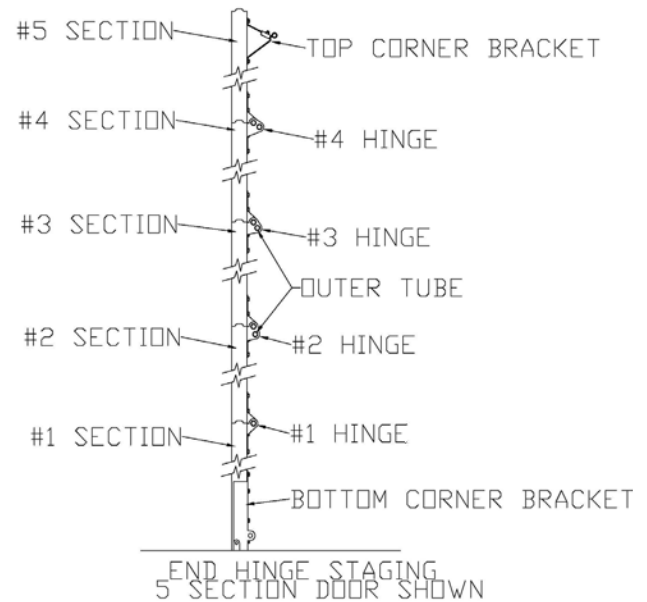
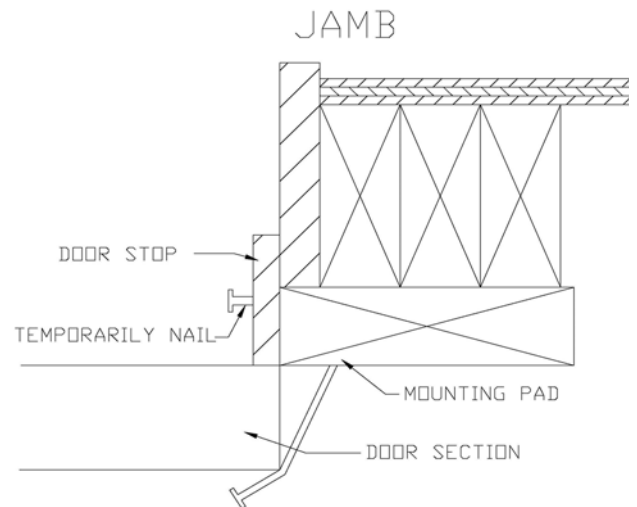

Figure 7
Figure 8
Roller hinges are numbered. All center hinges are #1 hinges. If your door has 2" track #1 hinges are also used as the end hinges between the bottom and #2 section. #2 hinges are used only as end hinges between the #2 and #3 section. #3 hinges are used only as end hinges between #3 and #4 section and so on. If your door has 3" track #3 hinges are used as the end hinges between the bottom and #2 section. #4 hinges are used between the #2 and #3 section. #5 hinges are used between the #3 and #4 section, and so on. See figure 7.
Step 7: Continue attaching the hinges and struts, if supplied, to the remaining intermediate sections and stack them in the opening. See figure 7, and secure with nails driven into the jamb and bent around the edge of the section as seen in figure 8.